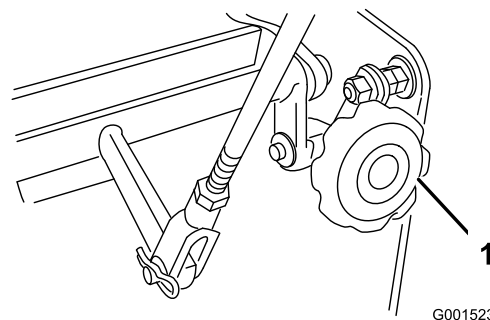

Figure 38
4. If the unit tracks to one side or the other, turn the quick track knob. Turn the knob right to steer right and turn the knob left to steer left (Figure 38).